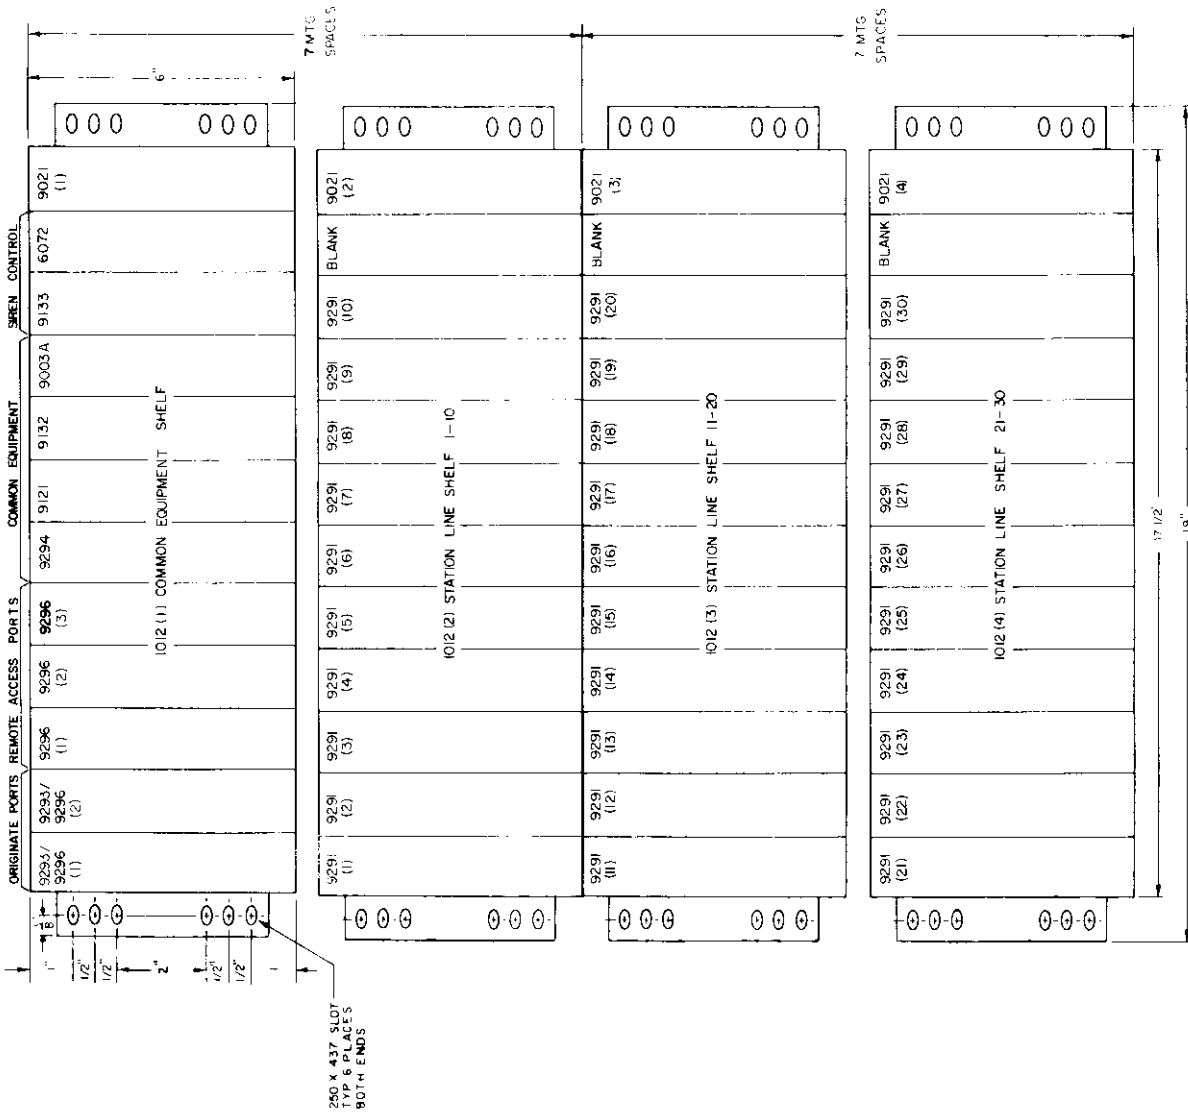

figure 3a. 292R System, front view, showing module configuration (for a 30-station System)
2.02 The 292R System mounts in a 19-inch or 23-inch relay rack. In the most common arrangement, the common equipment shelf is uppermost, followed immediately below by one to six line equipment shelves, depending upon the number of lines required (see figures 3a and 3b).